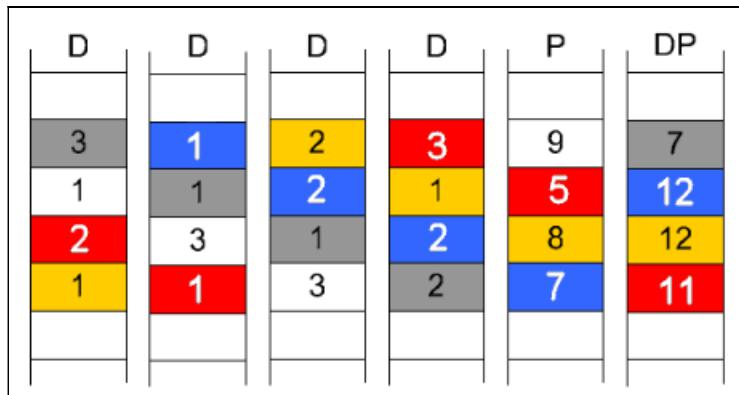
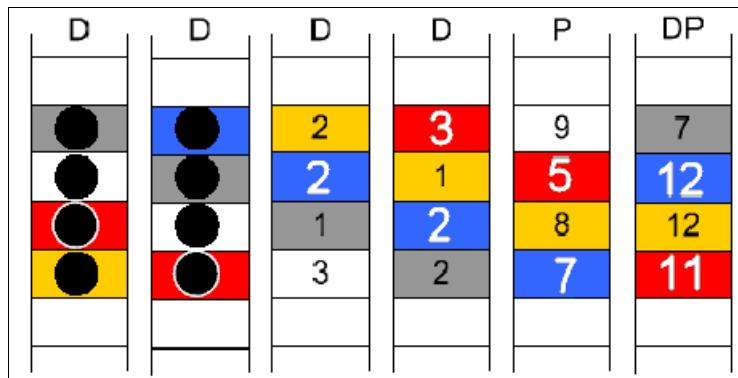
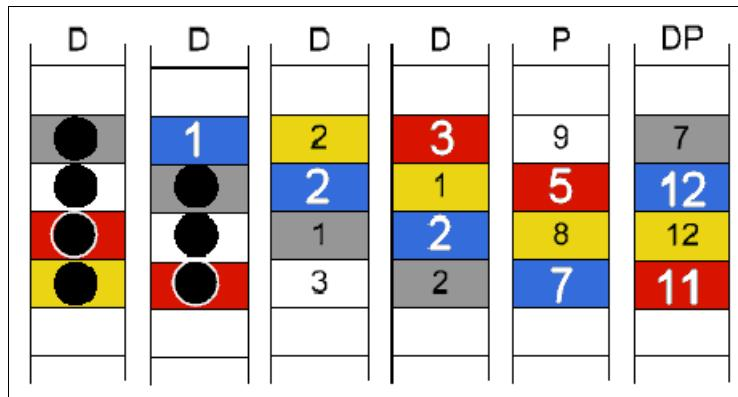

Figure 10-9 Block representation of RAID-DP corresponding with row and diagonal parity
Figure 10-10 RAID-DP simulation of double disk failure
Figure 10-11 RAID-DP reconstruction simulation diagonal blue block
Figure 10-9 adds in the rest of the data for each block and creates corresponding row and diagonal parity stripes.
One RAID-DP condition that is apparent from Figure 10-9 is that the diagonal stripes wrap at the edges of the row parity construct.
- ▶ The Figure 10-9 illustrates an omitted diagonal parity stripe (white blocks) stored on the second diagonal parity disk.
Using Figure 10-9 on page 136 as the starting point, assume that the RAID group is functioning normally when a double-disk failure occurs. The failure is shown by all data in the first two columns being missing in Figure 10-10.
With this in mind, traverse the blue series diagonal blocks in Figure 10-10 on page 137. Notice that only one of the five blue series blocks are missing. With four out of five elements available, RAID-DP has all of the information needed to reconstruct the data in the missing blue series block. Figure 10-11 shows that this data is recovered over to an available hot spare disk.